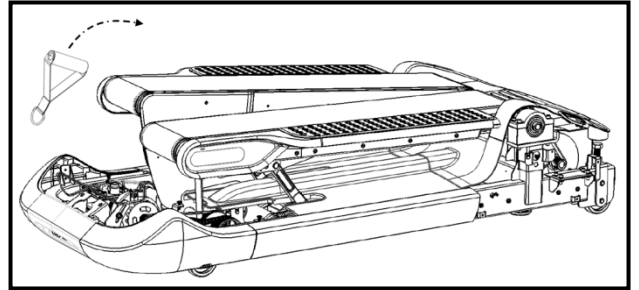

Fig. 5
5. Remove and store the transport grip handles (Fig. 5) once the TreadClimber[®] base is safely on the floor. The transport grip handles can be reattached for future transport.